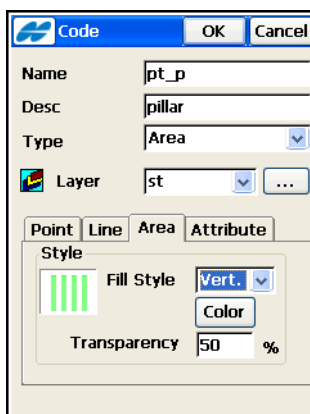

Figure 6-22. Edit Code - Area Type
- *Area*: when *Area* is selected in the *Type* field, color, symbol for node, style and thickness for boundary, fill color, fill style and transparency attributes display on the *Area* tab (Figure 6-22 on page 6-19).